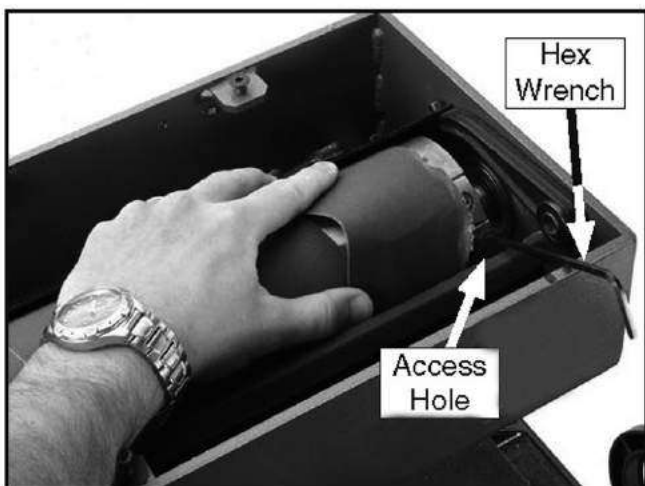

Figure 23. Hex wrench inserted into access hole on right tension wheel.
10. Rotate drum toward you so hex wrench rests against frame, as shown in **Figure 23**.